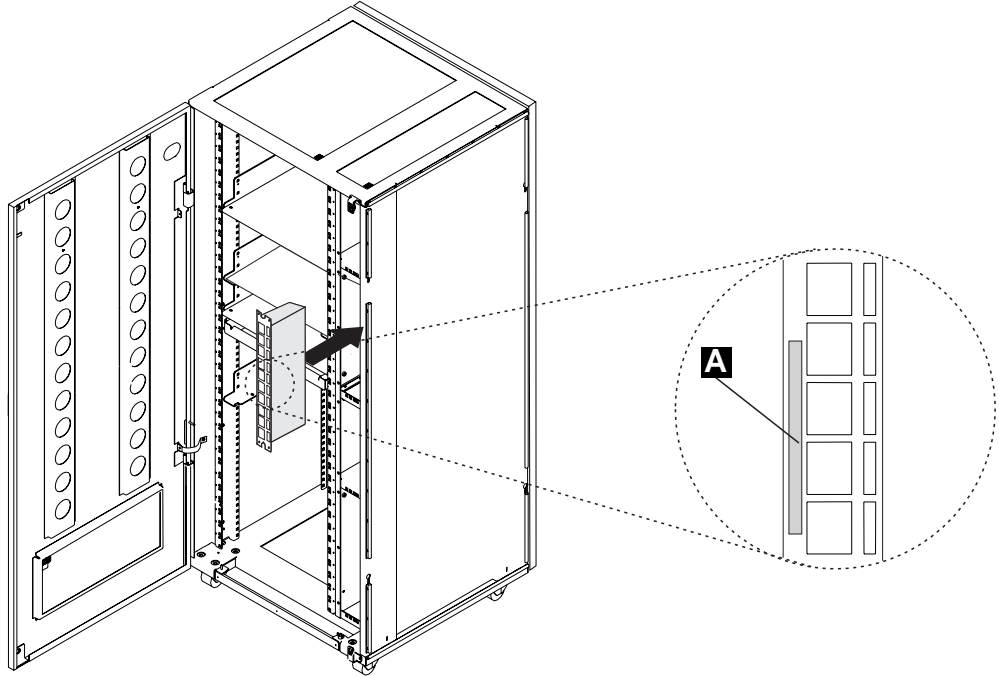

Figure 1-15. Installing the 8228 (Controller Expansion Rear side)
6. ____ Install the 8228 in a safe place near the service processor. If you received a controller expansion, the 8228 is installed on the rear side of the controller expansion using two screws (PN 1621232) and two captive nuts (PN 58G5766) see Figure 1-15 on page 1-20. Using label **A** (PN 0782966), identify the 8228 as Service Processor Access Unit.